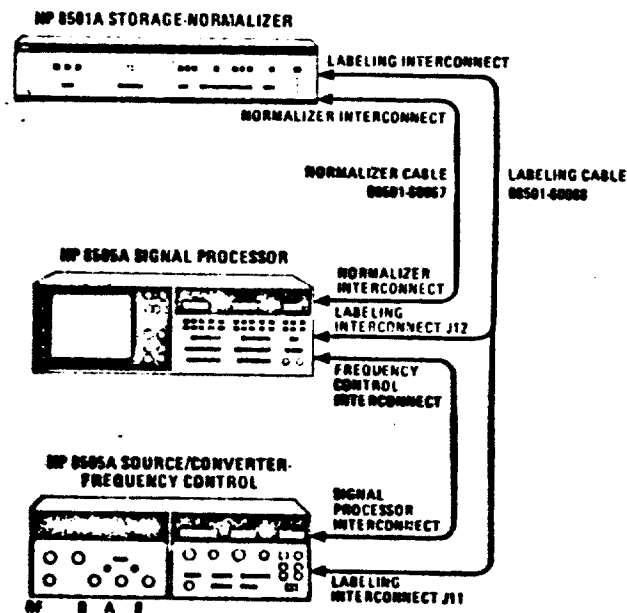

Figure 3-1. Test Setup to Make Initial Matching Adjustments
1. Connect equipment as shown in Figure 3-1.